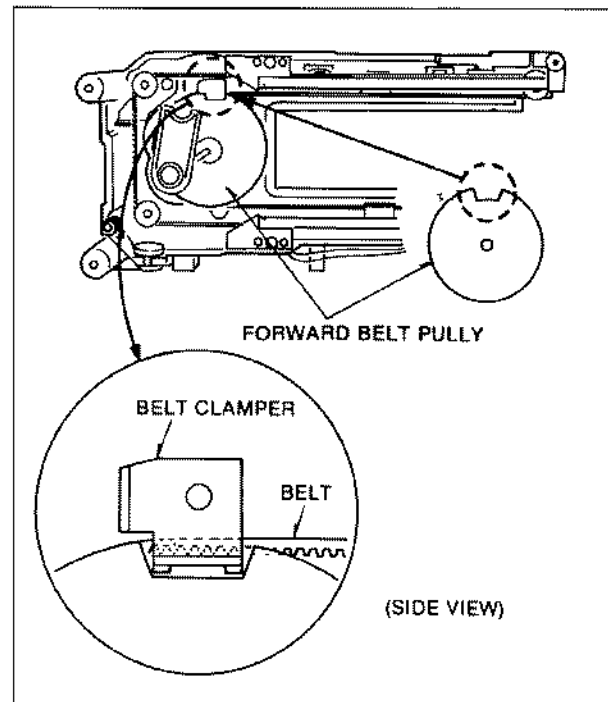

Fig. R18
1. Move a Forward Belt Pulley as shown in Fig. R18.